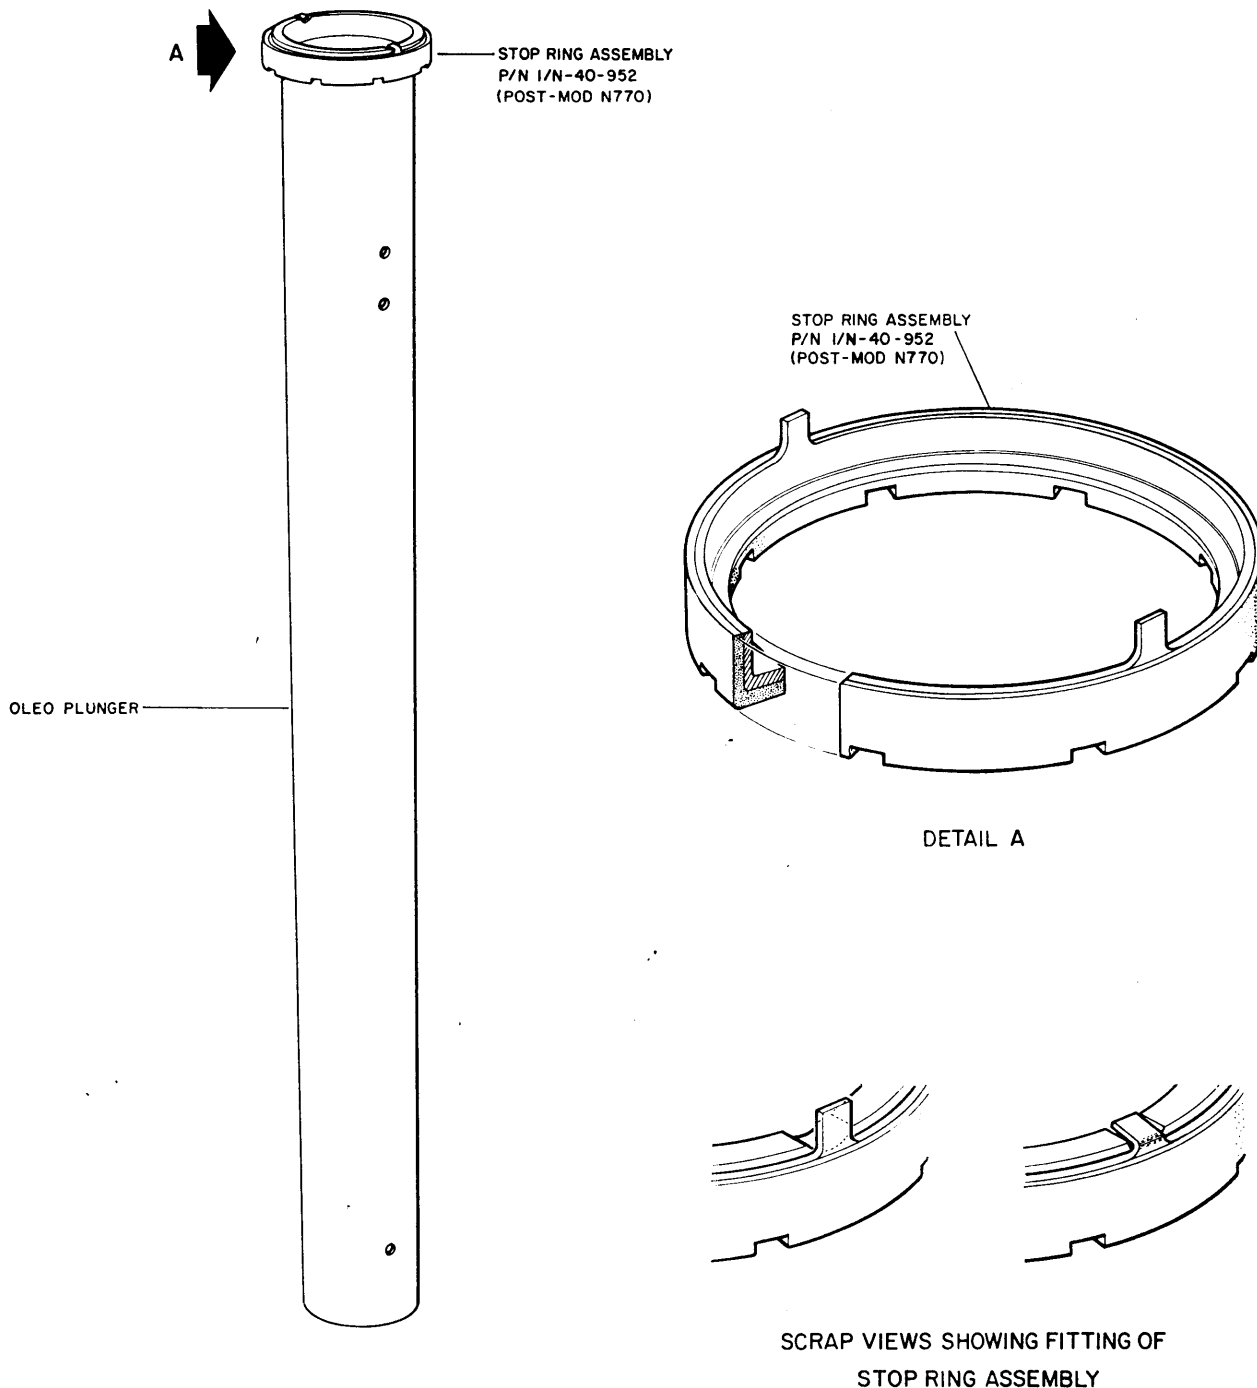

Figure 1 Mod N157 Installation with Mod N770 Stop Ring Assembly
- (1) Carry out Para 1.B(3) and 1.B(4) for the lower torque link only.
- (2) Disregard Para 1.B(5) and 1.B(6).
- (3) Disregard Para 1.D.
- (4) After carrying out Para 1.E. clean off all old pigmented jointing compound from the top cap retaining nut (3) and air charging valve locking washer (4).
- (5) Disregard Para 1.G.
C. **Fit Stop Ring Assembly to Oleo Plunger (Ref Fig 1)**
- (1) Before assembly of stop ring PN 1/N-40-952 to the top end of the oleo plunger carefully break the edges of the semi-circular cut-outs, in the top edge of the oleo plunger, with a 0.020 to 0.030 in radius in the area of the tabs on the stop ring.
- (2) Ensure there are no burrs or scores on the stop ring tabs.
- (3) Assemble the stop ring to the top of the oleo plunger, torque to 140-160 lb in. Bend the tabs in to the semi-circular cut-outs just sufficient to clear the top surface of the oleo plunger (Ref Fig 1).
- (4) Minor tears to the edge of the tab up to 0.040 in long are acceptable after assembly.